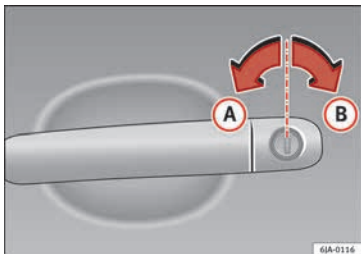

Fig. 120 Key positions during vehicle locking and unlocking.
- Turn the key in the driver door in the forward driving direction to its unlock position **(A) »» Fig. 120.**
- Turn the key in the driver door lock cylinder in the reverse direction to its lock position **(B) »» Fig. 120.**